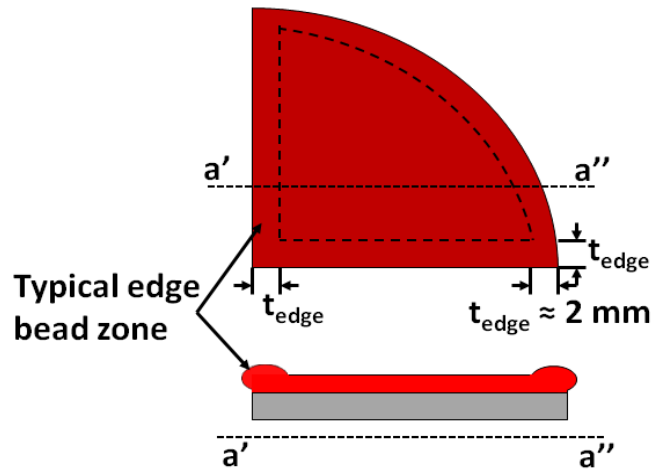

Figure 1 Edge bead zone after photoresist spin coating.
- a) Design mask regions with consideration to edge bead zones (**Figure 1**).